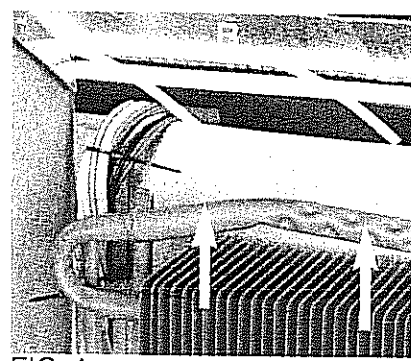

FIG. 4
Insert deflector plate (B), fitted with a lipped seal (A) of heavy-duty, non- flammable material, into the installation recess (see Fig. 4).